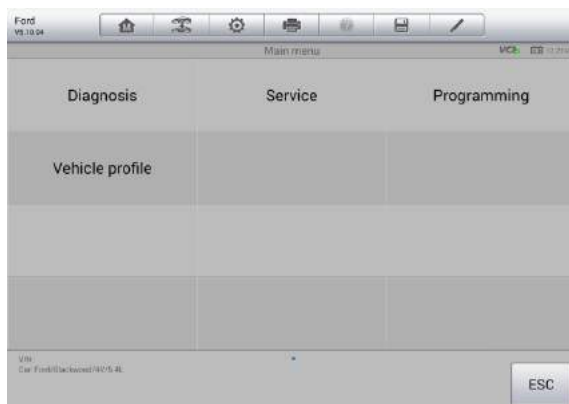

Figure 4-3 Sample Vehicle Diagnostics Screen
5. Tap **Done**. The vehicle will be identified in a few seconds, and once the matching is successful, the system will guide you to the Vehicle Diagnostics screen directly. (Figure 4-3)
The Vehicle Diagnostics screen (Figure 4-3) has three main options: